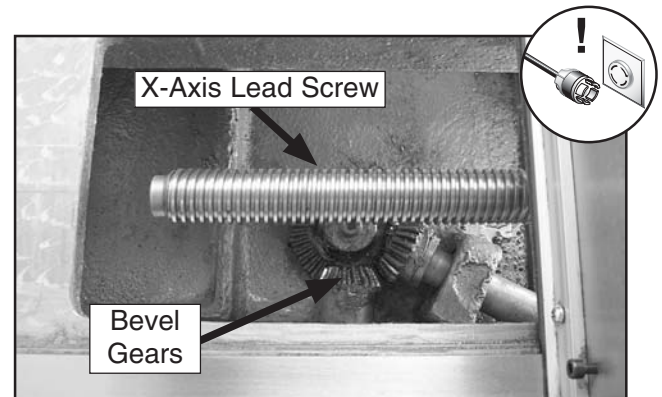

Figure 74. Z-axis bevel gears as seen through wiper plates at the rear of the table.
5. Position the table along the Y-axis so that you can slide the wiper plates apart to access the three Z-axis beveled gears (see **Figure 74**).